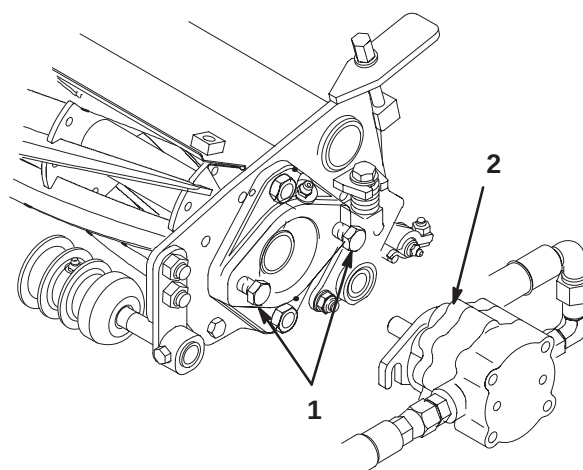

**Figure 13**
4. Thread a ball stud into each end of the cutting unit front roller (Fig. 13).
6. Slide the sleeve back on each ball joint receiver and hook the receiver onto the cutting unit ball stud (Fig. 13).
**Note:** The pull link assemblies are preset at the factory. If they ever need to be disassembled, reassemble them to the dimensions shown in Figure 13.